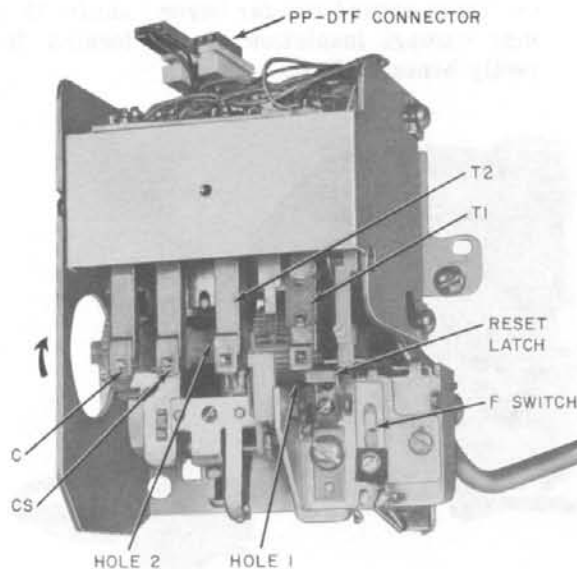

Fig. 11 — Setting Totalizer Rate
Note: Totalizers are preset at the factory for an initial 10-cent rate. If initial rates other than 10 cents are required, they may be reset (see Fig. 11). Two KS-16750, List 2 releasers or two paper clips are used to set the totalizer.
Use extreme care when resetting totalizer. Avoid damaging pawl and spring pile-ups. Do not attempt to turn totalizer cam shaft in direction opposite to that shown in Fig. 11.
- (1) Remove transparent totalizer cover by loosening captive cover screw.
- (2) Rotate totalizer shaft in proper direction (from bottom to top) until T2 springs (Fig. 11) rest in depression in shaft as indicated by movement of springs.
- (3) Depress reset latch toward bottom of totalizer.
- (4) Rotate shaft in proper direction until contacts T1 operate as indicated by an upward movement of the reset latch.
- (5) Do not allow shaft to move. Insert KS-16750, List 2 releaser or paper clip into hole 1 located near right-hand end of shaft. Do not disturb contact springs.
- (6) Hold tool firmly so that right-hand end of shaft cannot move.
- (7) Insert the second releaser or paper clip into one of the four "Hole 2" holes in center of shaft. Do not allow end of pin or clip to extend too far beyond shaft; this may damage insulation of coil located directly beneath shaft.